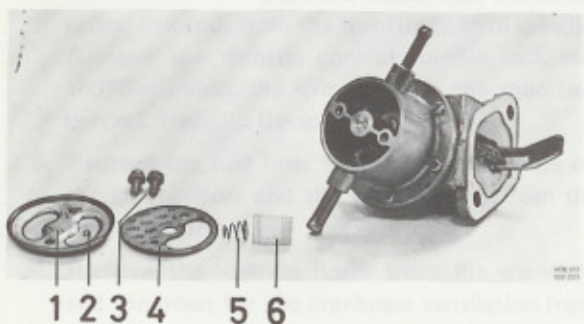

Fig. 23-35. S.E.V. fuel pump
1. Remove the cover (1, Fig. 23-35), the spring (5) and the seal (4).
3. Remove the filter (6) and blow it clean or replace it.
4. Install the filter. Place the seal with the open part over the filter. Install the spring and cover. The pin (2) in the cover should fit in the spring (5).